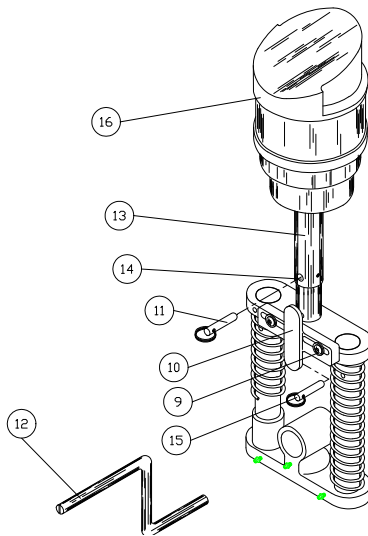

FIGURE 3
IMPORTANT: WHEN RE-ASSEMBLING, DO NOT OVER TIGHTEN ANY OF THE SCREWS, AS THIS TENDS TO STRIP THREADS CAUSING PROBLEMS IN THE FUTURE. BE SURE RING ON PIN (11) OF FIGURE 3 IS SECURELY FASTENED OVER LATCH (10). THIS WILL PREVENT LATCH FROM MOVING, SHOULD THE SOCKET HEAD SCREWS (9) LOOSEN DURING OPERATION.